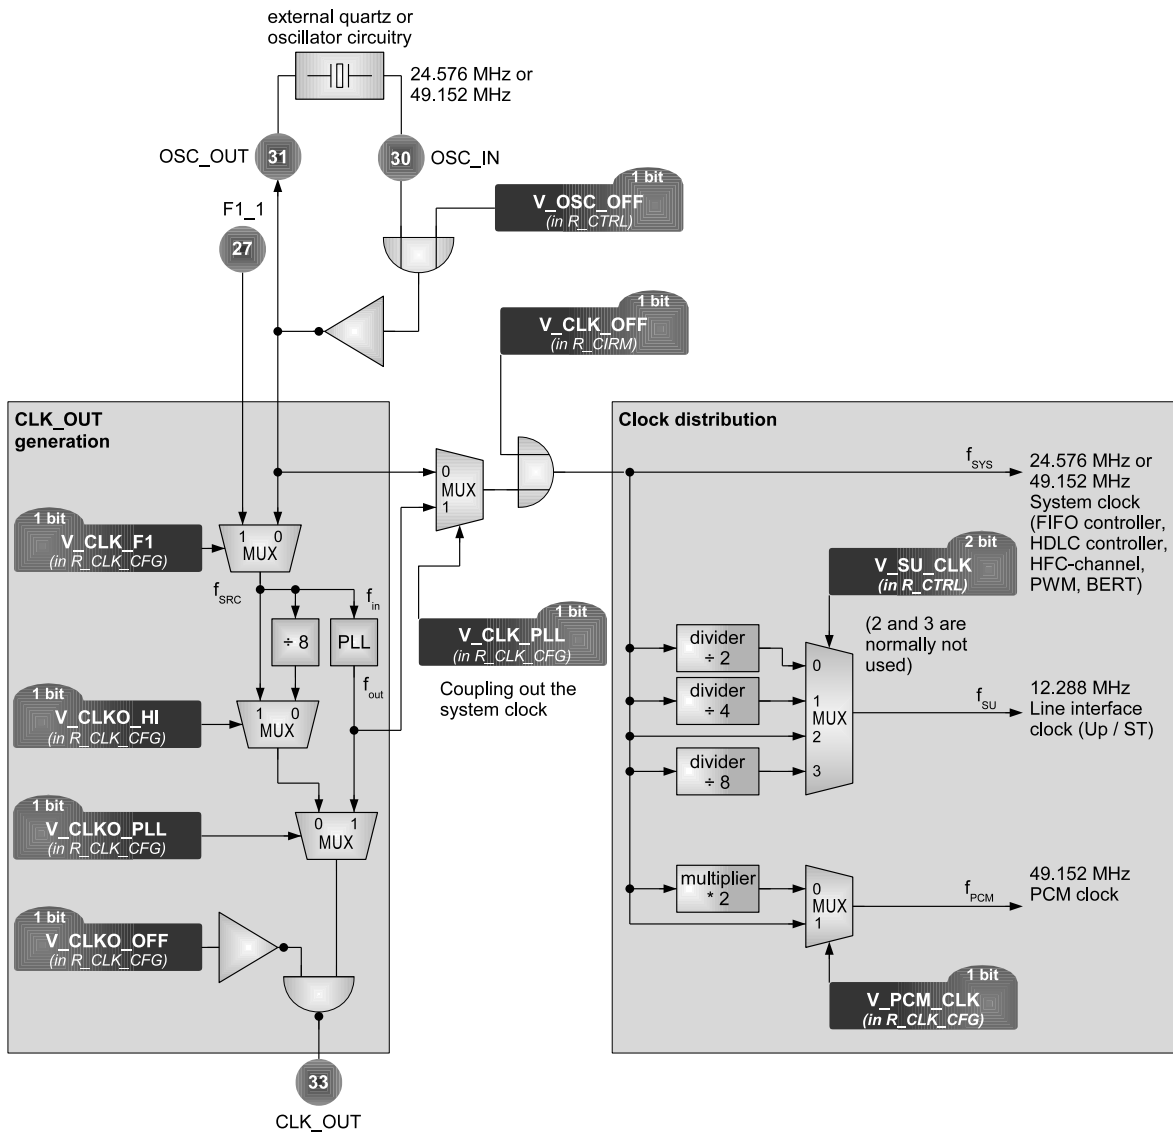

Figure 9.1: CLK\_OUT generation and clock distribution
XHFC-2SU supplies a programmable clock output which can be used for source of clocking for any external device. Even a CPU or MCU supervising the whole system in which XHFC-2SU is used can be clocked. The left part of Figure 9.1 shows the block diagram of CLK\_OUT generation.
All setup bits shown in Figure 9.1 are implemented in a way that there are no glitches on the clocks when register bits change.
XHFC-2SU uses several internal clock frequencies. They are generated as shown in the right part of Figure 9.1.
Depending on the external clock source connected to pin OSC\_IN, the internal PLL shown in Figure 9.1 is either required for internal clock generation or it is available for other application needs.
- When any other clock frequency is feed in pin OSC\_IN, the PLL is required for  $f_{SYS}$  generation.  $f_{SU}$  and  $f_{PCM}$  are derived from  $f_{SYS}$  as shown in Figure 9.1.